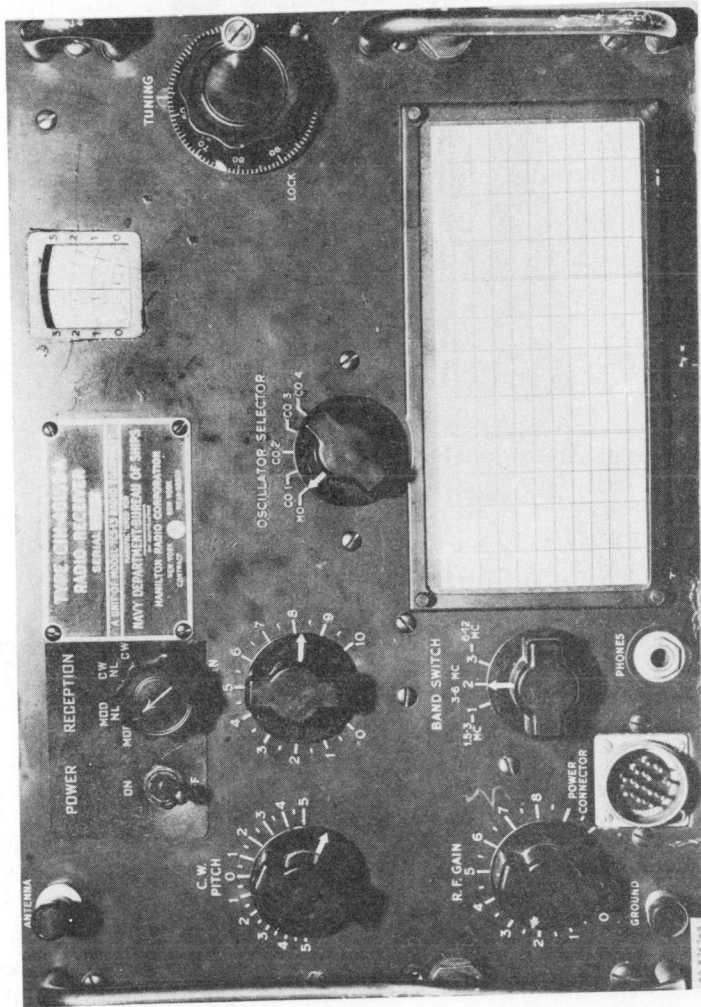

Figure 35.—Receiver Unit, front panel, AN/MRC-6.
41. Receiver Section.—The controls for the receiver section of the radio set are shown in Figure 35; their functions are described in the following chart: